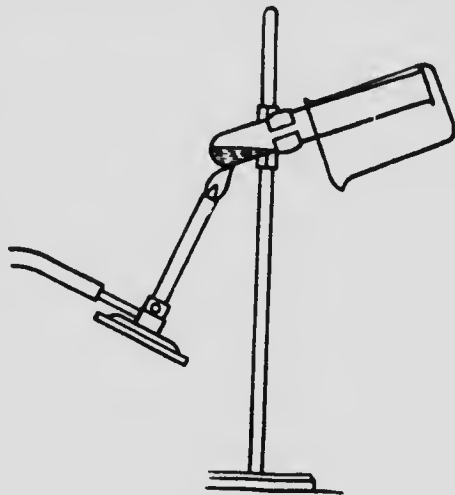

FIG. 38.
**Sketch.**—Fig. 38.
**Experiments.**—(1) Prepare some iodine: place grm. of potassium or sodium iodide and 1 grm. of manganese dioxide in a dry test tube, and add by means of the thistle tube 10 cc. of sulphuric acid, being careful that the acid does not wet the top of the test tube. Clamp the test tube to the iron stand, place a clean dry beaker inverted over its mouth and heat gently in the draught cupboard (Fig. 38). Revolve the beaker while heating. Note the violet vapors produced. Examine the crystals obtained in the beaker.